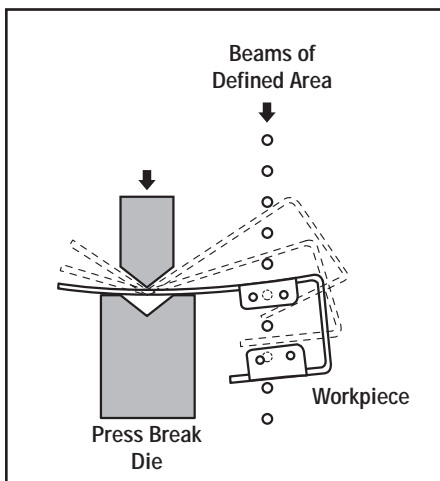

Figure 2. Two-beam floating blanking
*Floating blanking* is the “blinding” of one or groups of two adjacent sensing beams, which will appear to change position (“float”) in order to allow multiple objects (usually workpiece material) to move through the defined area, at any point, without tripping the final switching device relays of the MINI-SCREEN System. *With floating blanking ON, any and every one- or two-beam blockage(s) will be ignored.* See Figure 2.